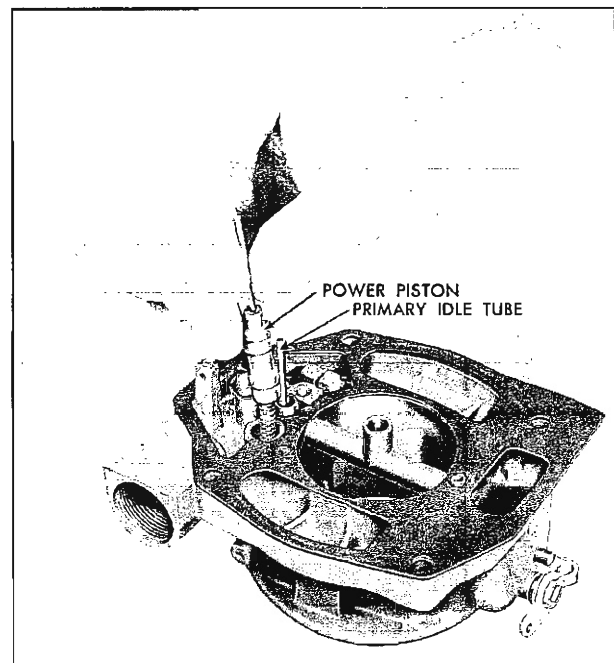

Fig. 6B-22 Removing Power Piston
3. Remove the pump plunger from the float bowl by pulling straight upward (Fig. 6B-24).
4. Remove pump return spring from bottom of pump well (Fig. 6B-25).